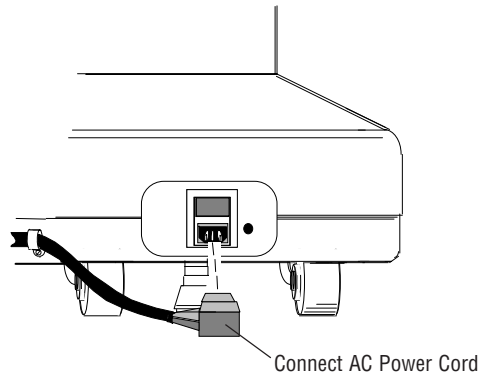

Figure 3-1. Power Cord Connection (Electric Table Only)
2. Connect female end of 20' (6 m) long power cord* to male connector located on narrow end of table base (can only be connected one way). See Figure 3-1.